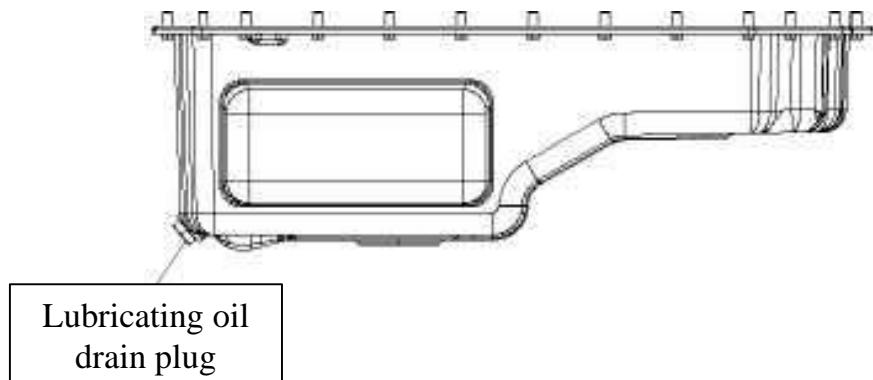

Figure 2-8: Location of lubricating oil discharge
- Tighten the retainer at the bottom of the oil pan, discharge the lubricating oil and then turn the retainer back (Fig. 2-8).